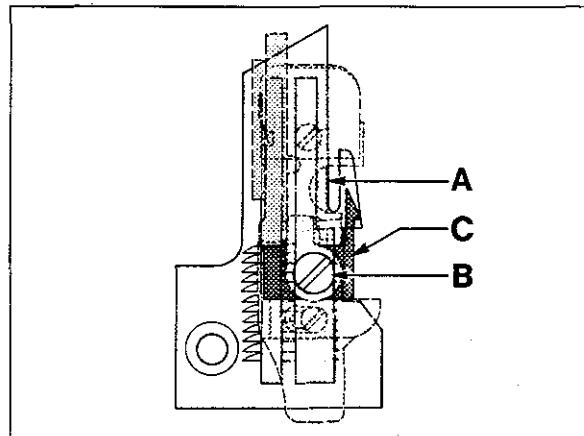
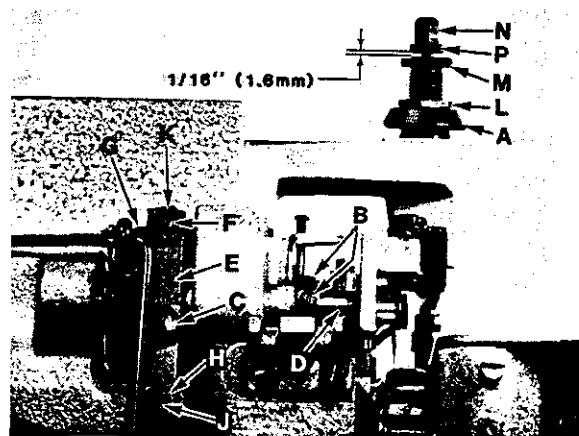

Fig. 18
Fig. 19
Right edge of presser foot must align with left edge of needle slot in throat plate as shown Ref. Point A, Fig. 18. Presser foot must lie flat on throat plate. The adjustable stitch tongue on presser foot must center over stitch tongue of throat plate as shown in Fig. 18. If adjustment is required, lock presser foot in sewing position by release bushing (A, Fig. 19), loosen collar screws (B) and clamp screw (C), then adjust lifter lever shaft (D) left to right until the right edge of presser foot aligns with the left edge of needle slot in throat plate as shown in Ref. Point A, Fig. 18. Tighten collar screws (B, Fig. 19) and while holding lifter lever arm (E) so its stop screw (F) is against intermediate lever (G), tighten clamp screw (C). Completely unlock release bushing (A, Fig. 19). Plunger should clear presser arm without binding. Loosen screw (B, Fig. 18) and adjust stitch tongue (C) left to right, to center over stitch tongue of throat plate as shown in Fig. 18, then tighten screw (B). On all Styles except 39500 XQJ, XRB, XRC, and CXQJ; a pivot type presser foot shank allows precise adjustment of presser foot, forward - rearward and flatness on throat plate for optimum feeding.
Completely unlock release bushing (A, Fig. 19). Plunger should clear presser arm without binding. Loosen screw (B, Fig. 18) and adjust stitch tongue (C) left to right, to center over stitch tongue of throat plate as shown in Fig. 18, then tighten screw (B). On all Styles except 39500 XQJ, XRB, XRC, and CXQJ; a pivot type presser foot shank allows precise adjustment of presser foot, forward - rearward and flatness on throat plate for optimum feeding.
Lift presser foot to highest position and rotate handwheel in operating direction. Upper looper/spreader must not contact presser foot at any point of travel. If adjustment is required, loosen locknut (H, Fig. 19) and adjust stop screw (J) so presser foot will not interfere with upper looper/spreader, then tighten locknut (H). Loosen locknut (K) and set stop screw (F) on upper end of lifter lever arm so there is approximately 1/16 inch (1.6mm) free motion in lifter lever before presser foot starts to rise, then tighten locknut (K).
Sufficient pressure must be maintained to feed work uniformly. Excessive spring pressure will cause feeds and presser foot to wear prematurely when chaining. If adjustment is required, rotate handwheel in operating direction until both main and differential feeds are positioned below throat plate. Loosen locknut (L, Fig. 19) and turn adjusting screw (M) clockwise for more pressure or counterclockwise for less pressure, then tighten locknut (L).
Lock presser foot in position with pressure release bushing (A); loosen capnut (N) and adjust nut (P) up or down so its under surface is 1/16 inch (1.6mm) above screw (M) as shown in Fig. 19. Hold nut (P) in position and tighten capnut (N).